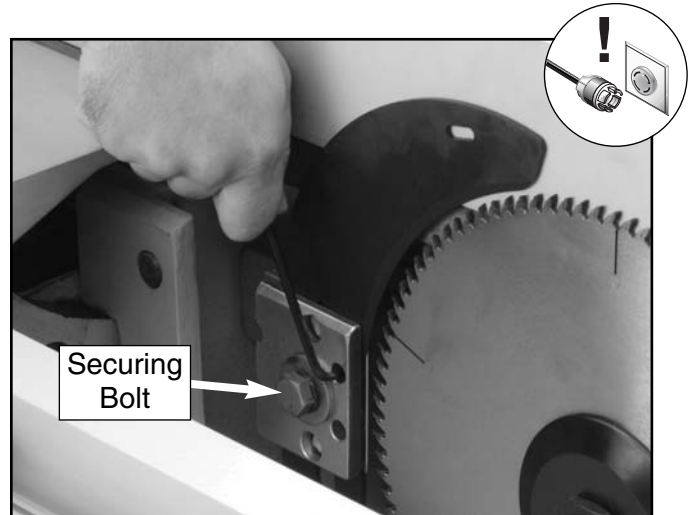

Figure 93. Adjusting riving knife alignment.
7. Adjust the four setscrews (**Figure 93**) in/out until the riving knife is aligned with the carbide teeth of the main blade.